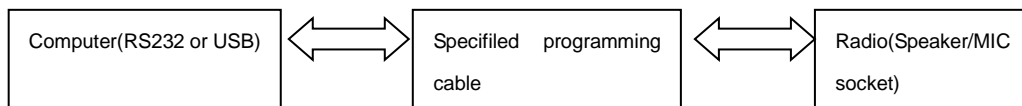

Figure4.5
B. Connect the radio to the computer serial port with the specified programming cable,see figure4.5